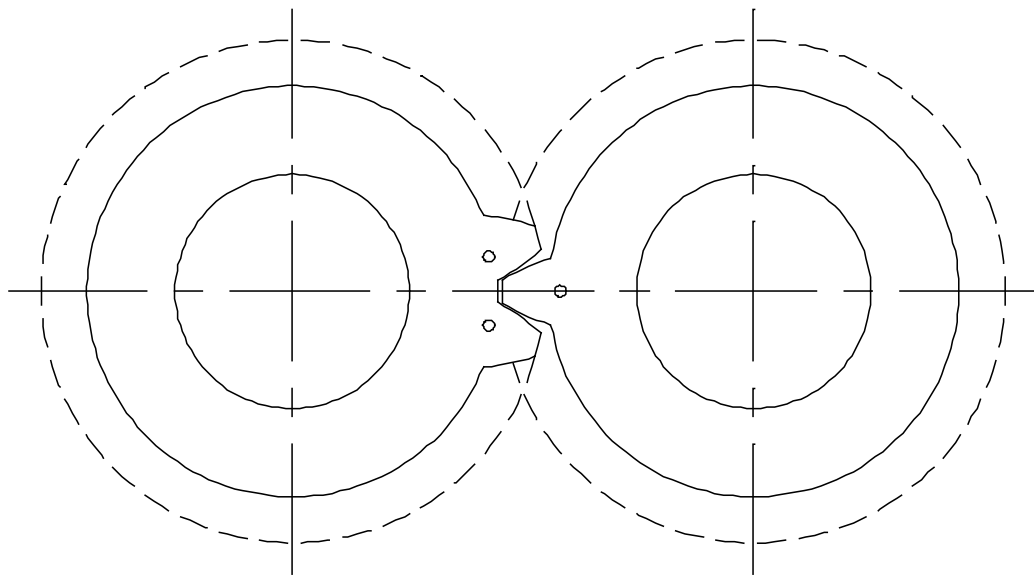

Fig 26 Timing marks on gears
- Install gears (5.09) to shafts (5.01 and 5.02). Gear marked 'D' should be installed to drive shaft (5.01). Gear marked 'L' should be installed to lay shaft (5.02) ensuring correct alignment of timing marks, see Fig 26.